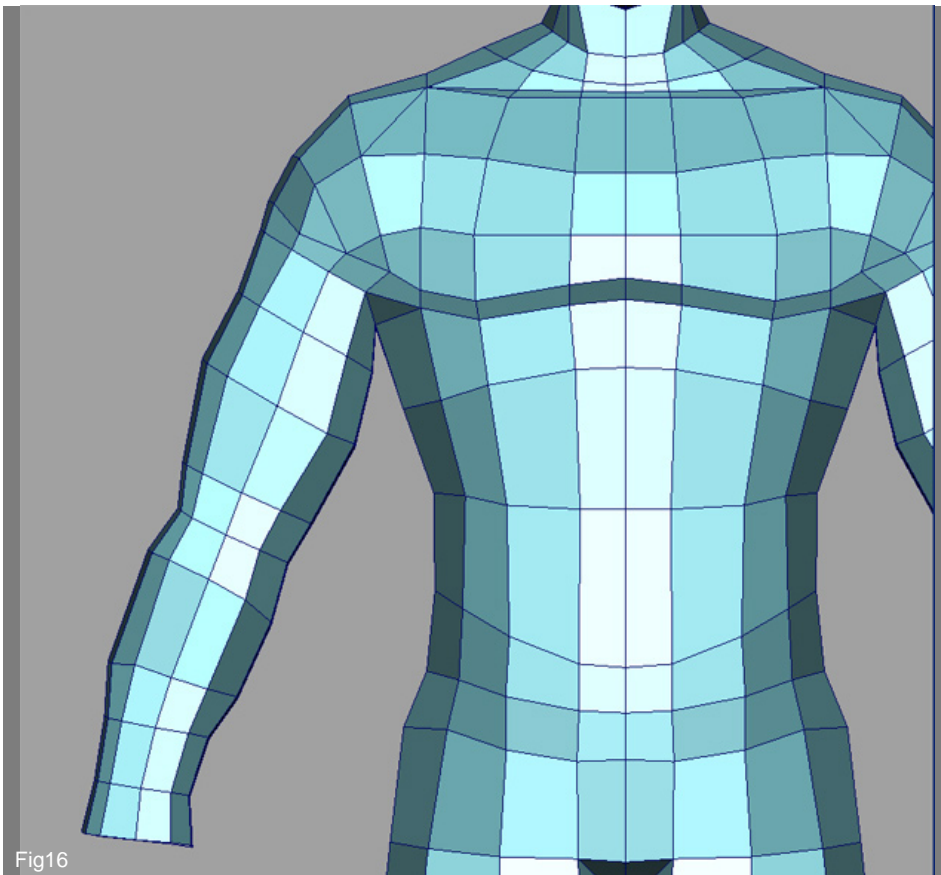

Fig16
16. Extrude the whole ring of edges a few times and reshape the arm until you get something that looks close to Fig16. One thing is for sure: always rearrange the verts in order to have a nice shape!